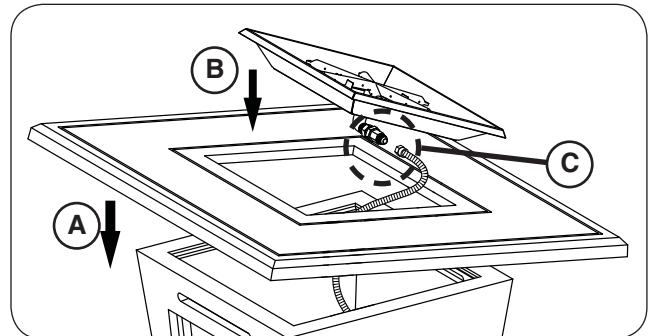

Fig. 25-3 Place top, burner, and connect flex
3. **CAREFULLY** place the top on the unit (see Fig. 25-3, A).
4. Drop the burner assembly into the opening in the center of the firetable top, with the two burner pan holes facing toward the door (see Fig. 25-3, B).
5. Locate the flex connector (marked OUT) that is coming off the valve assembly. Route it to the connection found on the underside of the burner assembly and connect. Tighten securely. See Fig. 25-3, C.